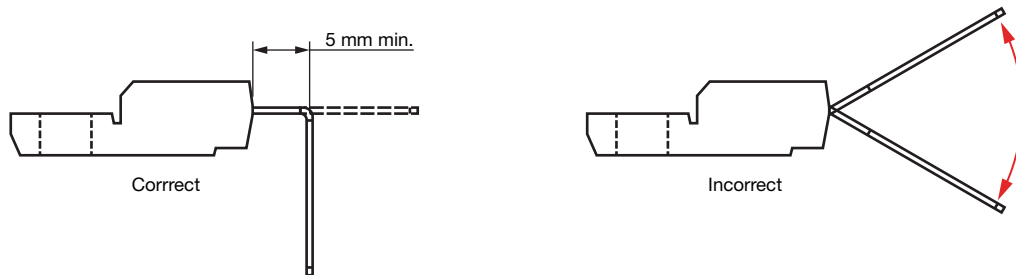

Fig. 4
3. Leads should be bent at a minimum distance of 5.0 mm from the diode body (Fig. 4)